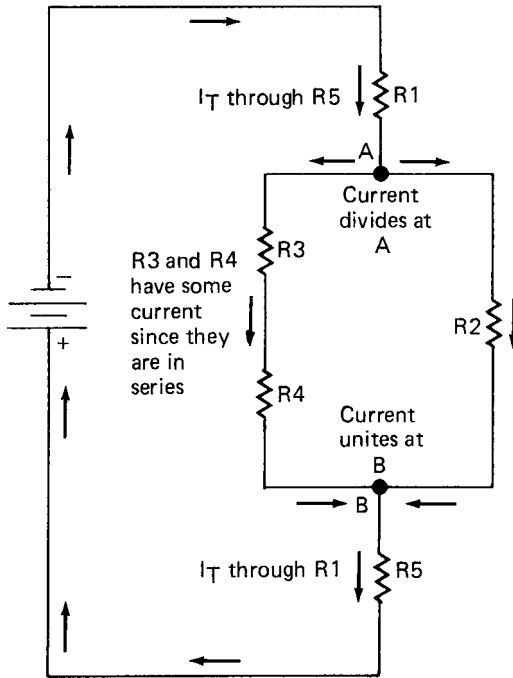
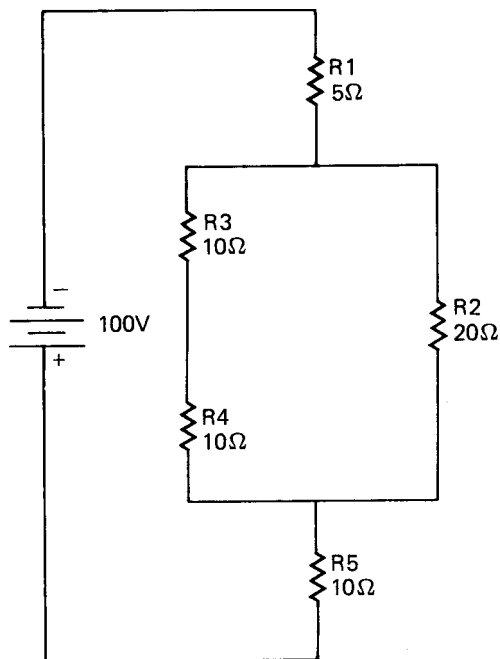
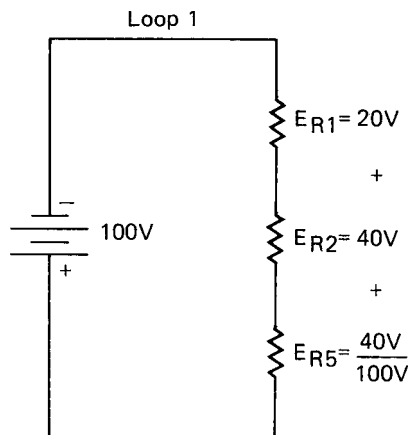
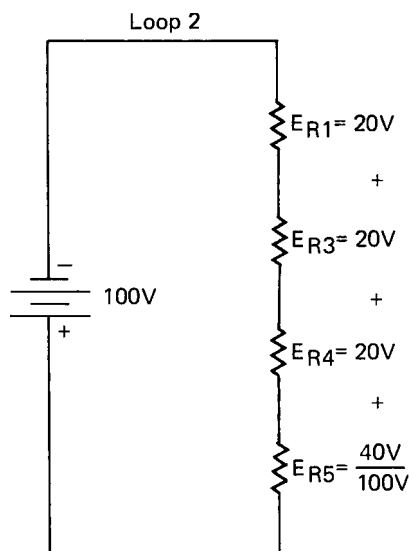

Figure 4-16 Current division in series-parallel circuit.
Figure 4-17 Complex series-parallel circuit with resistance values given.
Figure 4-19 Voltages in loop 1 of series-parallel circuit.
Figure 4-20 Voltages in loop 2 of series-parallel circuit.
Current flow in a series-parallel circuit is shown in Fig. 4-16. The calculations for amperage in this circuit are included in the following section. They are part of the discussion and calculations of voltage values for the same circuit.
Examine Fig. 4-16 and see how the current divides; then look at Fig. 4-17. This figure provides total voltage at the source and resistance values for all resistors. To find values for voltage and current, here are the simple steps to follow:
3. Locate all branches with parallel resistors. This has been done in drawing 3 of Fig. 4-19.
4. Locate all branches that have series resistors in series with other resistors. Look back at Fig. 4-17. Resistors 1, 2, and 5 are in series. These are shown in loop 1 in Fig. 4-19. Resistors 1, 3, 4, and 5 are also in series. These are shown in loop 2 in Fig. 4-20.
To figure out current, divide total resistance into total voltage. Total voltage is given as 100 volts. Resistance values are shown in Fig. 4-17. Look at the resistance for the parallel portion of this circuit first. Resistors 3 and 4 are in series. These values of 10 ohms each are added for a total of 20 ohms. This gives the effect of two 20-ohm resistors in parallel. Two 20-ohm resistors in parallel give a total resistance value of 10 ohms. This value (10 ohms) is then added in
Note that resistors 1 and 5 are repeated in the series drawings in Figs. 4-19 and 4-20. This is important to remember: In determining voltage in a series-parallel circuit, reduce the branches to an equivalent series value. In doing so, consider all resistors in each series.